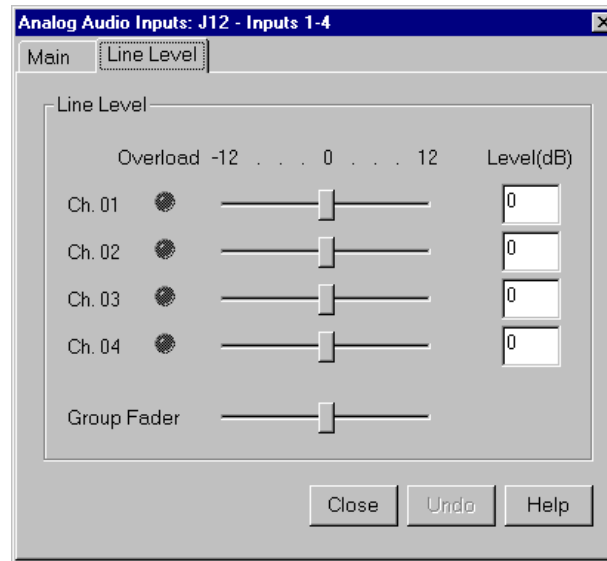

Figure 33. Analog Audio Input dialog box, Line Level tab
1. In the Analog Audio Input dialog box, click the Line Level tab (Figure 33).